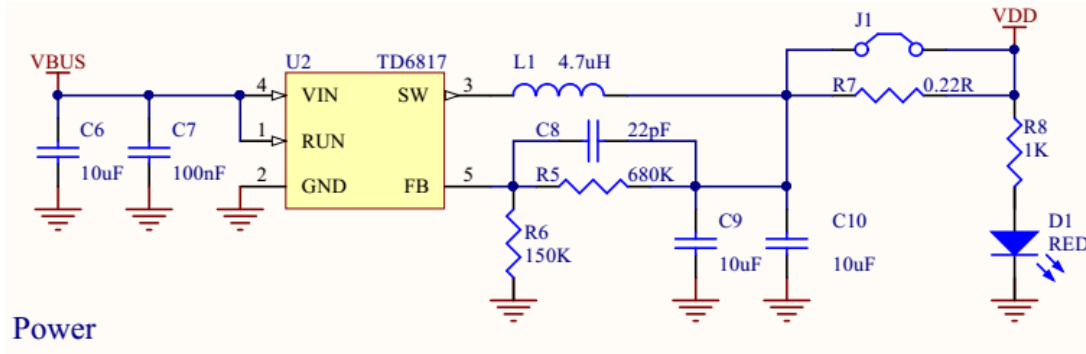

Figure 10 Power Source Circuit
- SMT patch should on the basis of reflow profile diagram, maximum temperature 245°C , reflow profile diagram is shown in figure 10;